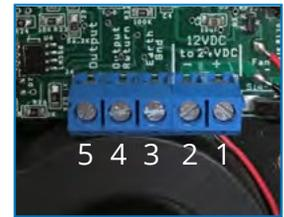

Figure 1
- Wire the GPS-iMEASURE per the following (see FIGURE 1):